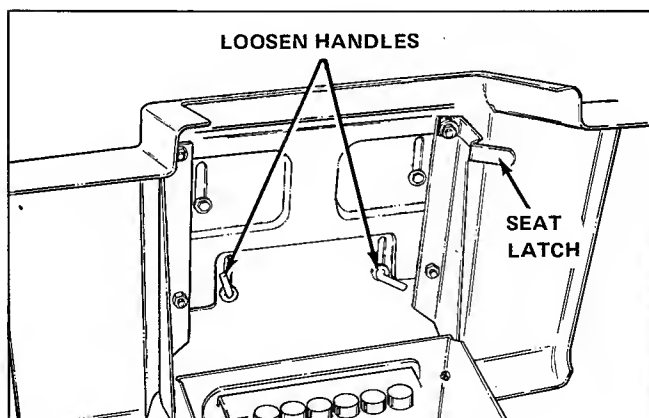

Figure 45. Seat Adjustment
1. Raise the seat deck by lifting the latch on the left side of the seat. (See figure 45).
2. Loosen the two handles (figure 45) holding the seat.